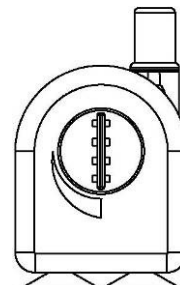

Figure 1
- 3) The pump flow rate can be adjusted by the flow valve on the front of the pump casing. (Refer to Figure 1).